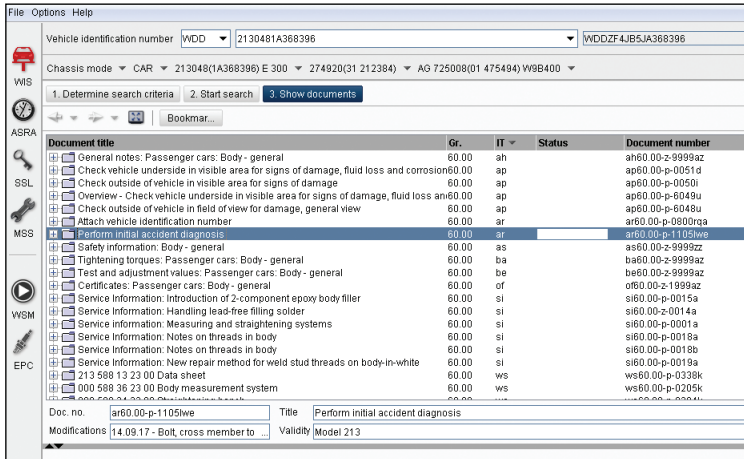

Figure 2: After selecting the Group(s) and Information Type(s), clicking the Start Search button opens the document list. Double-click a document to open it.
4. Select the specific document: After clicking Search, a document list appears (Figure 2). Select the document you want to see and open it by double-clicking.